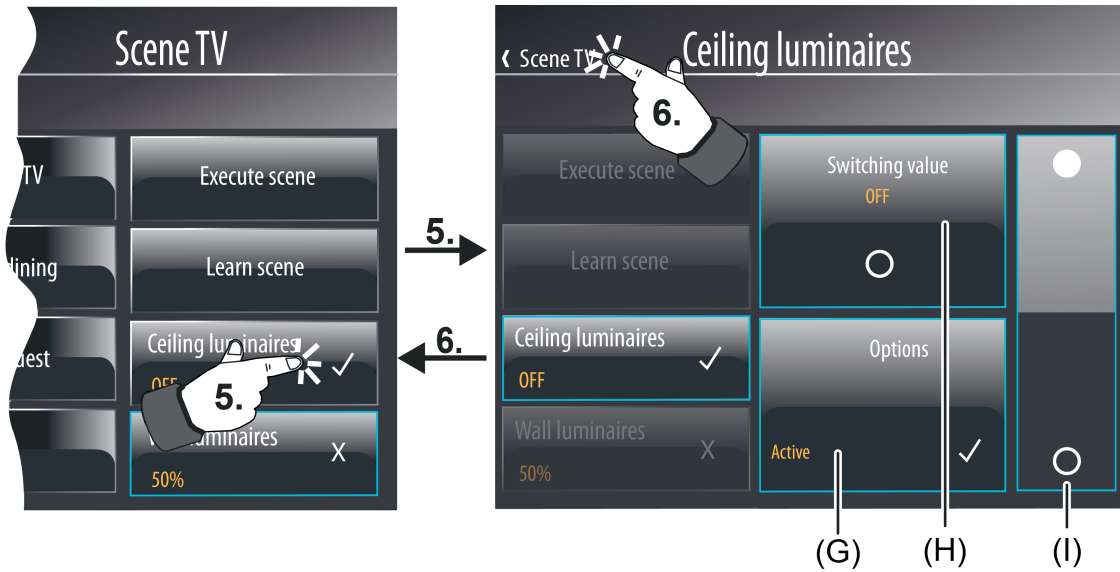

Figure 82: Example of a scene configuration page (right) - scene function "Switching"
With the data type "1-bit switching" (figure 82) a display area with status text and icon (H) is visible and an operating area for presetting the scene switching command (I) by a rocker.